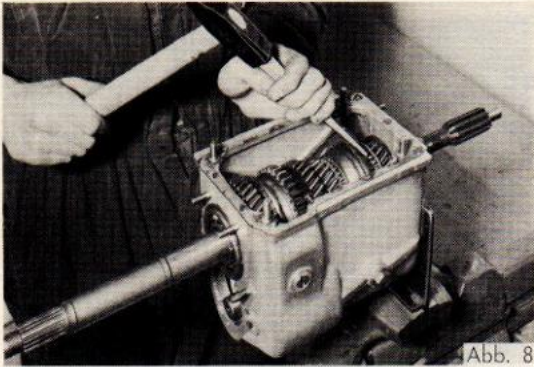

Abb. 8
10. Remove input shaft and pinion from gear-box casing, using hardwood punch (Fig.8), then remove toothed check-ring and needle cage.